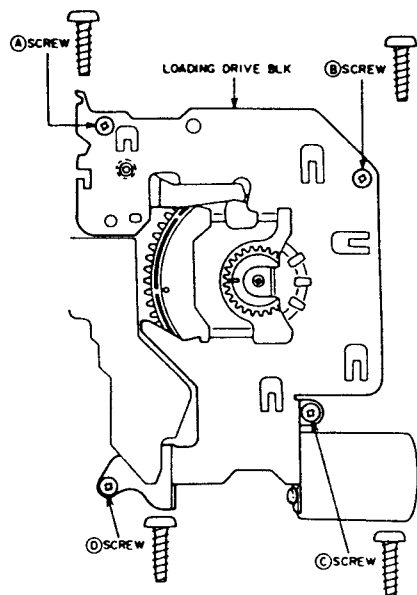

Fig. 3-15
- 2) Install the LOADING DRIVE BLK as shown in Fig. 3-15.